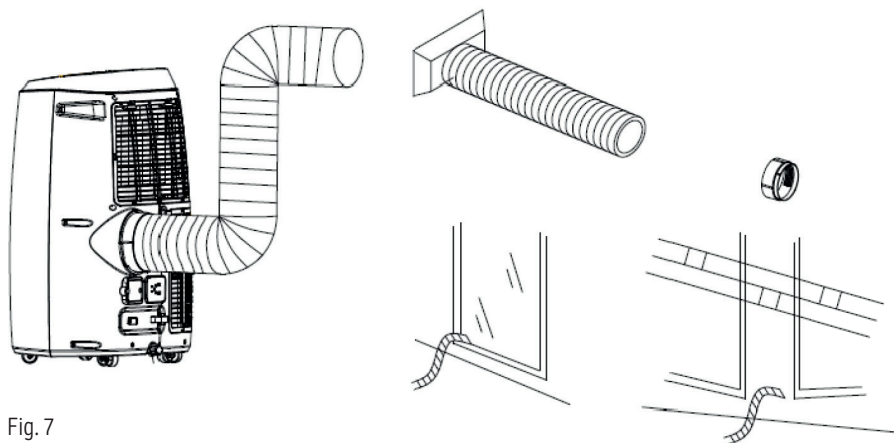

Fig. 7
2. Insert the square fixing clip into the openings on the back of the air conditioner (Fig. 7)